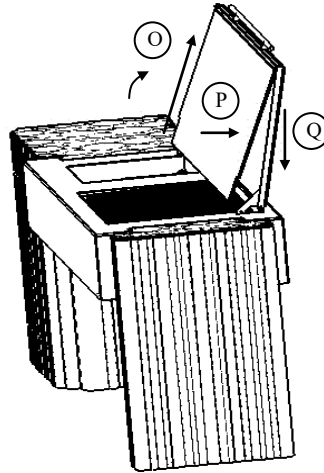
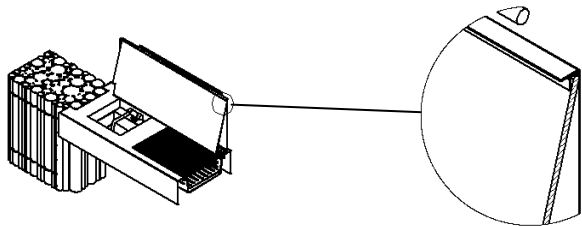
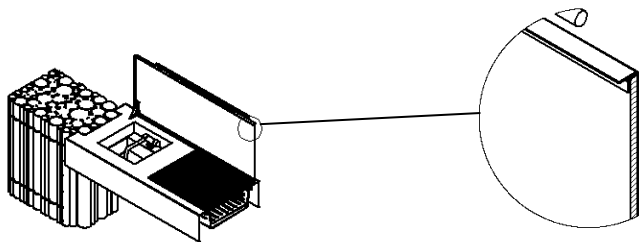
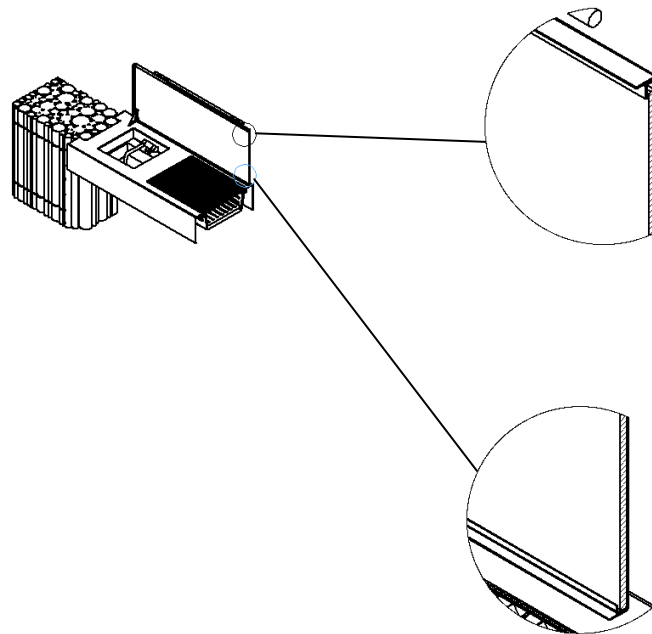

Figure 14: Insert sequence of the mirror in the chutes
Figure 14.1: Glass insert into the upper chute
Figure 14.2: Press the glass fully onto the cover
Figure 14.3: Glass insert into the inferior chute
Open the cover, insert the glass into the upper chute (O) (Figure 14 e Figure 14.1), then press the glass fully onto the cover (P) (Figure 14 e Figure 14.2) and slide the mirror into the cover until it clicks into the inferior chute (Q) (Figure 14 e Figure 14.3).